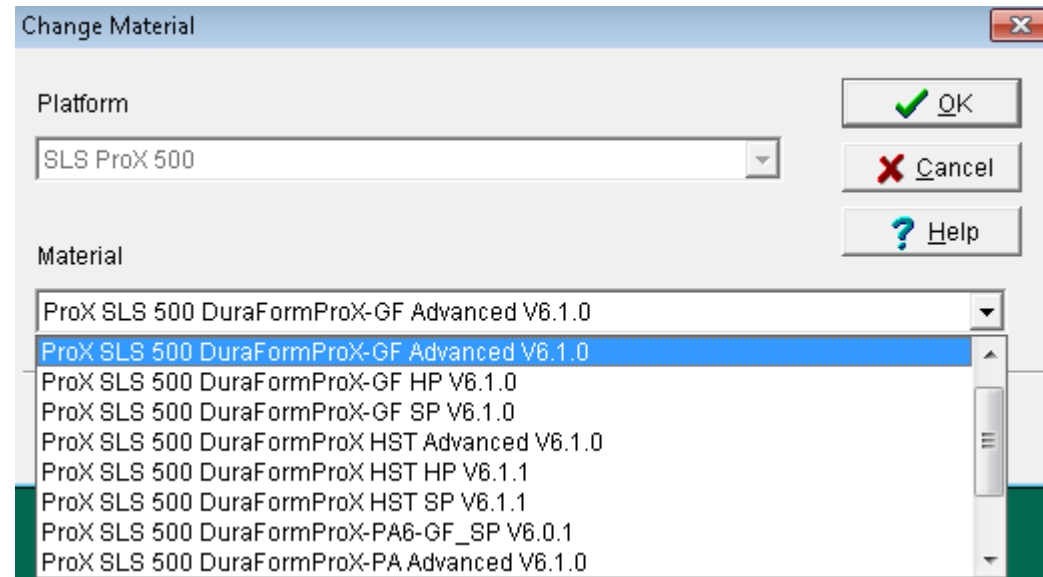

Figure 6
11. Launch Build Setup and in the main menu, select "File" >> "Change Material". You should be able to see the following material configuration list. (Figure 6).